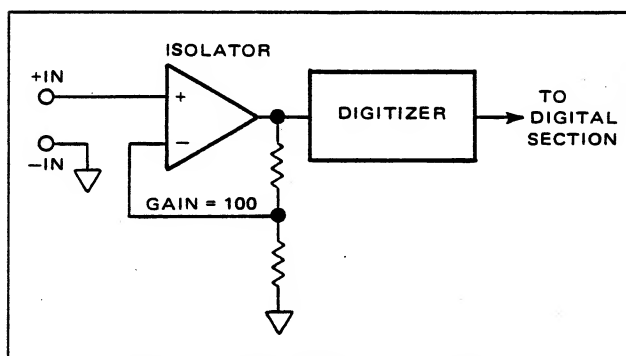

Figure 5.5 - 100 Millivolt DC Range
5.3.4.3.5 *100 Millivolt Range.* The signal from the +IN terminal is routed through the contacts of the .1+1 relay to the positive input of the Isolator. The Isolator output is applied to the Gain Resistor string through the normally closed contacts of the Preamplifier Select relay. A feedback signal from the Gain Resistor string is applied to the negative input of the Isolator (through the normally closed contacts of the 1+100 relay and the normally open contacts of the .1+1 relay) to obtain a closed loop gain of 100. The -IN terminal is connected to analog common through contacts of the Ohms relay, and to the lower end of the Gain Resistor string through contacts of the .1+1 relay. A simplified block diagram is shown in Figure 5.5.